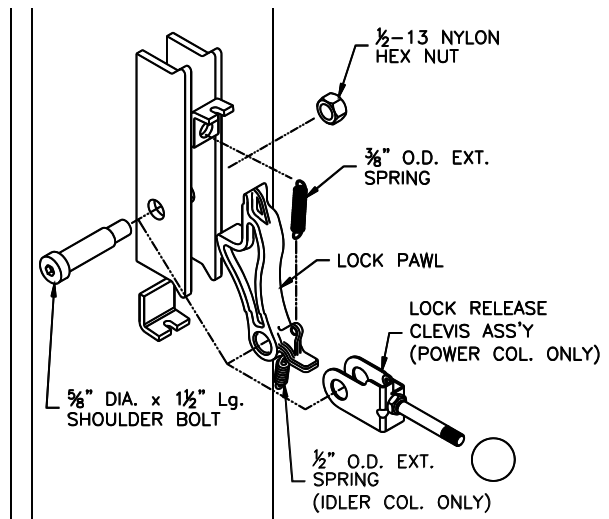

Fig 2 – Locking Pawl Assembly
- 4) Install Power Column locking pawl and lock release clevis with 5/8" diameter x 1 1/2" lg shoulder bolt and 1/2"-13 nylon lock nut, **Fig. 2**. Attach 3/8" O.D. extension spring to upper hole in locking pawl and other end to hole in bracket welded to column.
- 5) Attach 1/2" O.D. extension spring to hole located on bottom side of Idler Column lock pawl and install using 5/8" shoulder bolt and lock nut, **Fig. 2**. Attach 3/8" O.D. spring the same as Power side.